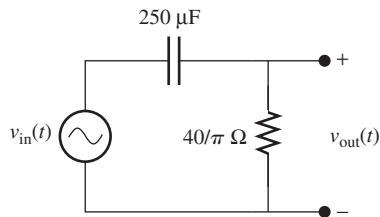

FIGURE P7.19 Circuit for Problem 7.19.
7.19 (A) Sketch the Bode plot of the transfer function for the circuit shown in Figure P7.19.